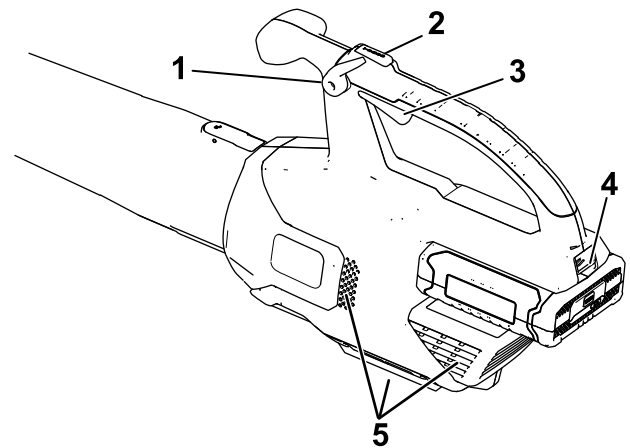

Figure 4
2. To start the blower, squeeze the variable-speed trigger (Figure 4).
Note: Engage the speed lock to keep the machine on without pressing the variable-speed trigger (Figure 4).
To accelerate the blower speed, press and hold the turbo boost button for the desired amount of time (Figure 4).
To adjust the air speed as you blow, use the variable-speed trigger (Figure 4).
To maintain the current air speed, engage the speed lock (Figure 4).
To shut off the blower, disengage the speed lock (if in use) and release the variable-speed trigger (Figure 4).